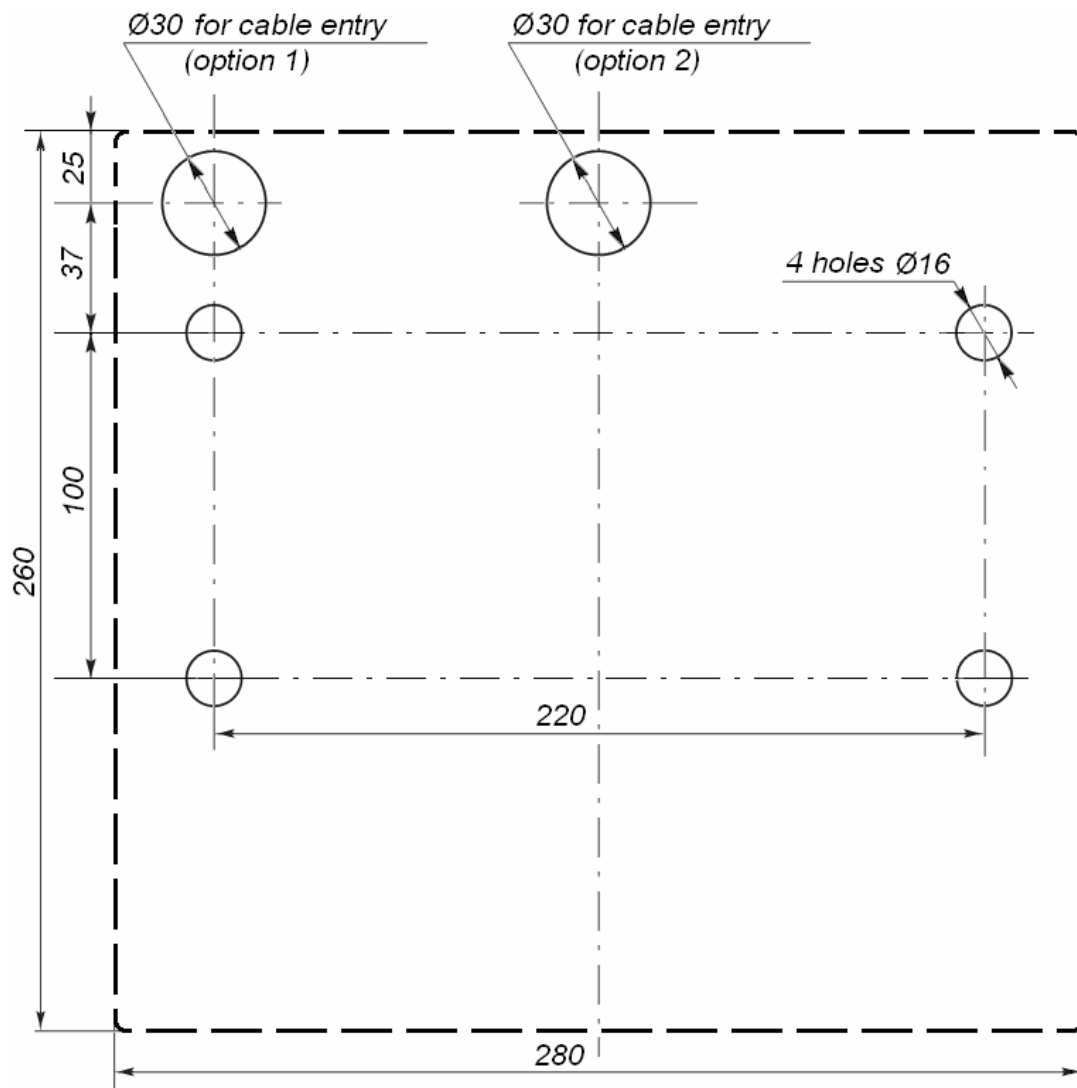

Figure 12. Floor anchor position and cable entries for housing installation
- to mark the mounting holes according to Fig. 12;
2. Make the holes for anchor bolt (12) sleeves for the turnstile housing installation (Fig. 12).
3. Install the turnstile power supply unit (8) in its place (See power supply unit certificate for installation procedure of the turnstile power supply).
4. If you lay out cables under the floor surface, make an electric raceway to the cables entry zone of the turnstile housing (shown in Fig. 12).
6. Remove the cover (2) in order given in Chapter 6.